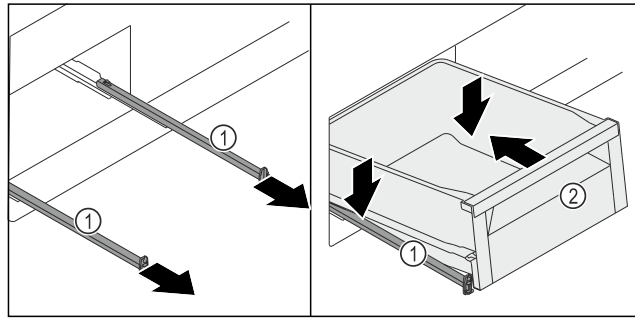

Fig. 124
- ▶ Pull out the rails Fig. 124 (1).
- ▶ Hold the rails Fig. 124 (1) firmly and place the drawer Fig. 124 (2) diagonally on the rails Fig. 124 (1) from above.
- ▶ Slide the drawer Fig. 124 (2) backwards on the rails Fig. 124 (1) as far as it will go.